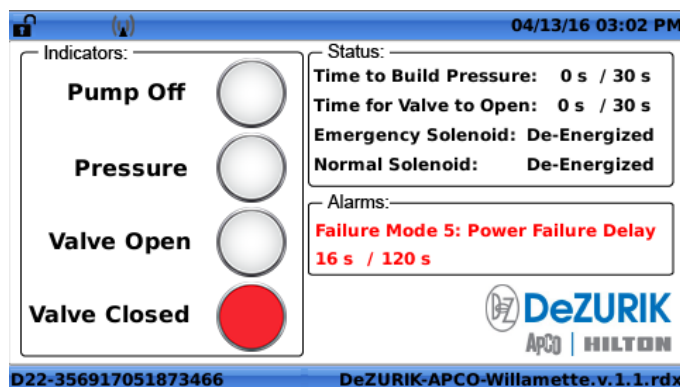

Figure 20A: ECB-CP Controller Home Screen, Failure Mode #5.
5.7A For Solenoid Controlled Valves Model ECB-CP (Figure 20A)